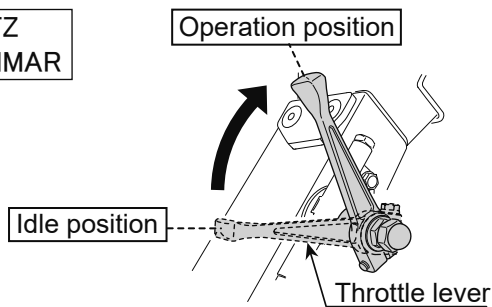

Fig.21
- 1 Once the engine has started, move the engine throttle lever quickly to the operation position. (Fig.21)